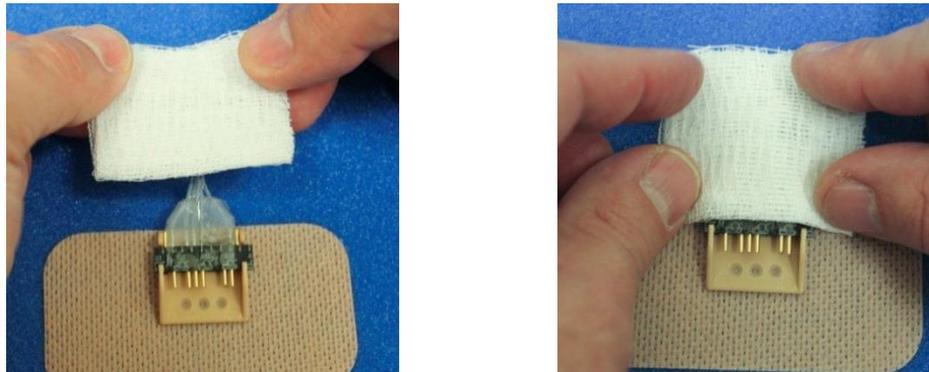

Figure 21.
8. Place a 2" X 2" gauze pad over the exiting electrode wires (Figure 21).